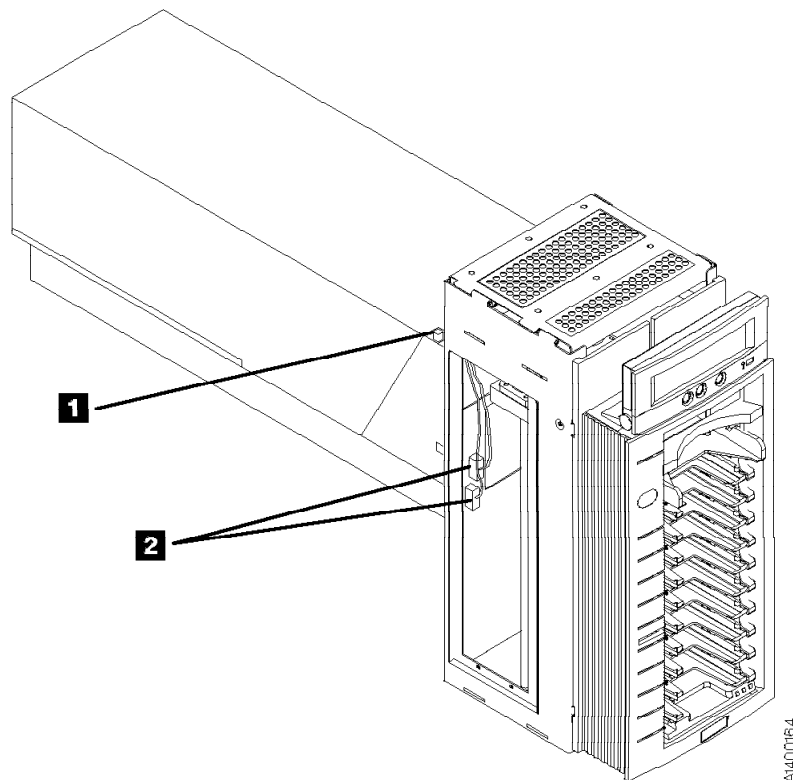

Figure 243. ACF and Deck Enclosure
8. See Figure 243. Disconnect the two cables **2** from the ACF to the deck enclosure.